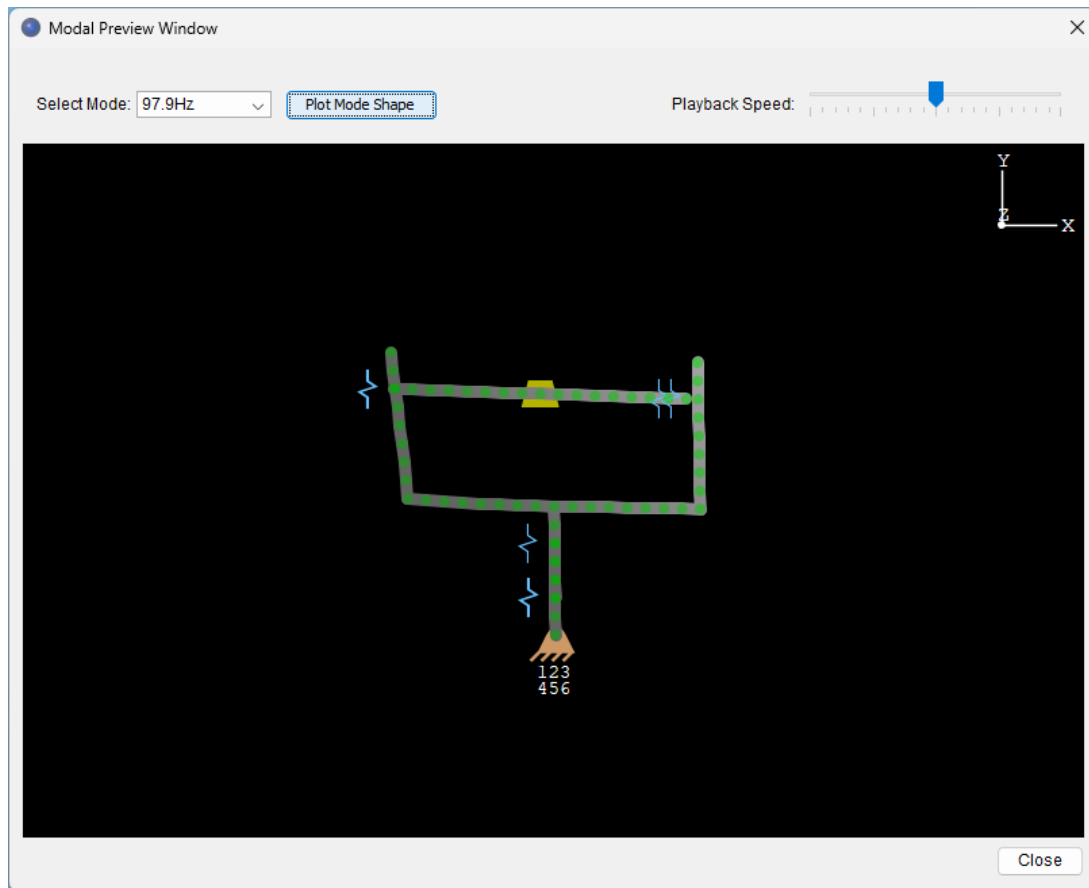

Figure 2-17. Modal Preview Window
3. Select the [\[Plot Modes\]](#) button to open the Modal Preview Window. See Figure 2-17 below.